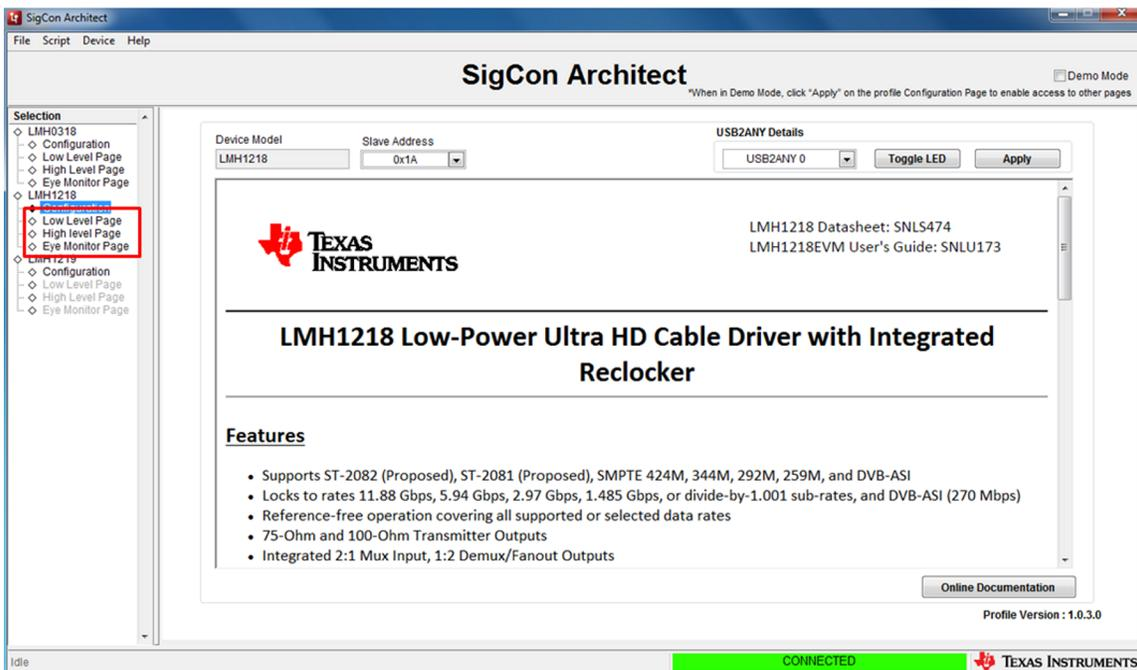

Figure 4. LMH1218 Configuration Complete
- (a) After the software communicates with the reference design board, the *Low Level Page*, *High Level Page*, and *Eye Monitor Page* options become selectable (see Figure 4).